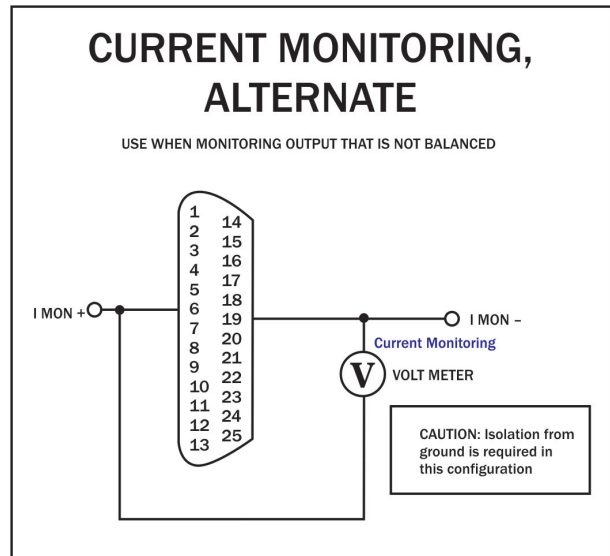

Figure 5.6 – Remote Current Monitoring, Alternate Method
**Method:** Connect a voltage meter to monitor the output current being produced by the amplifier. Connect across PIN 6 (IMON+) and PIN 19 (IMON-). See **Figure 5.6**.